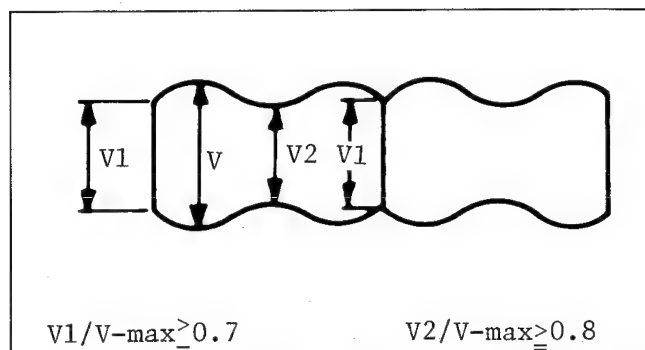

Fig. M47 Spec. of Envelope Figure - (1)
2. Playback the monoscope portion of the alignment tape, VFMS0001H6 and confirm that RF envelope appears as in Fig. M47.